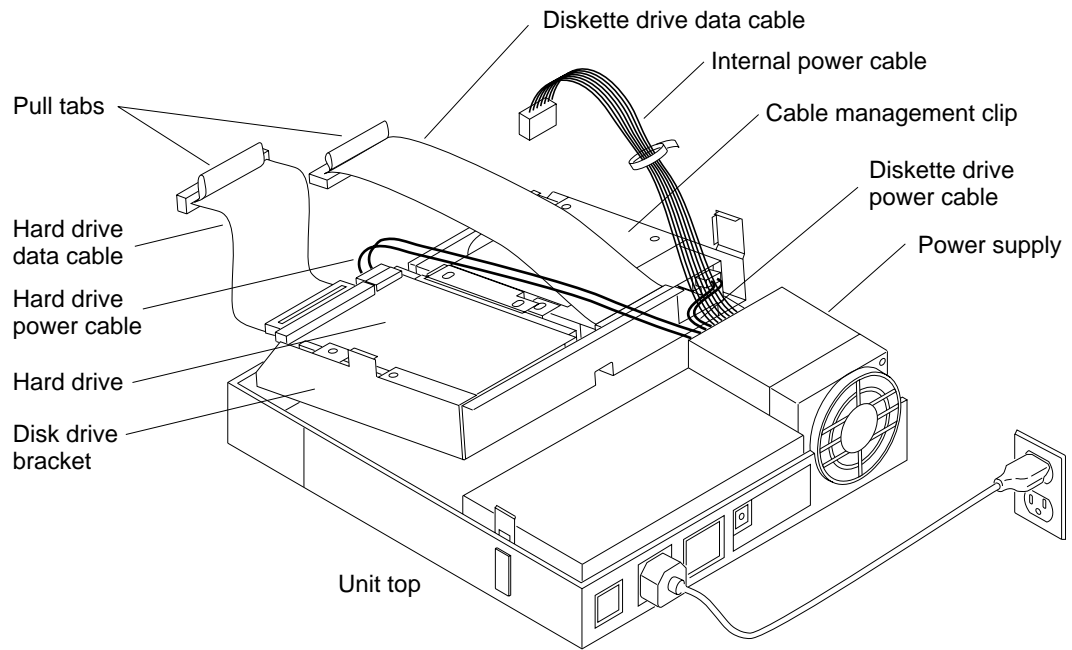

Figure 4-10 Removing and Replacing the Disk Drive Mounting Bracket
2. **Tilt the disk drive bracket toward the front of the unit. Gently lower the bracket into position in front of the power supply. (See Figure 4-10).**